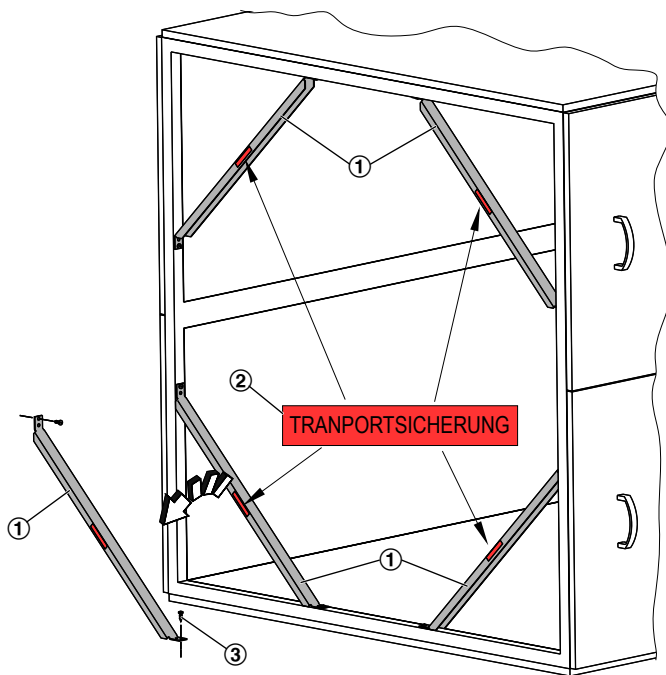

Fig. 10: Cross bars
1. ▶ Remove the cross bars (Fig. 10 /1) that are marked with a red sticker (Fig. 10 /2).
2. ▶ Then close the drilled holes in the frame with screws (Fig. 10 /3).